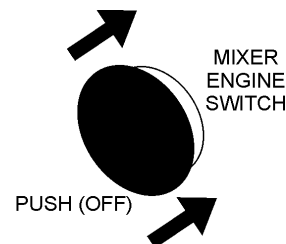

Figure 15. Engine ON/OFF Switch (OFF)
2. After the engine cools, push the engine ON/OFF switch inward to the "OFF" position (Figure 15).